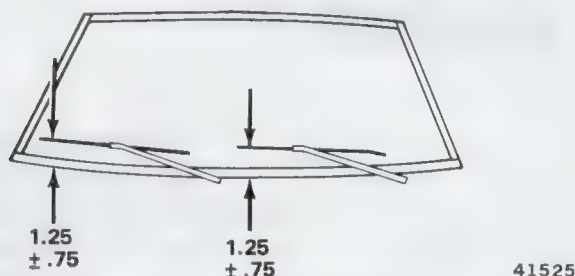

Fig. 3T-21 Wiper Arm Park Location Measurements (Inches)
(2) Operate wiper motor a few cycles, then turn off to position pivot shafts in park position before installing arms and blades.
(3) Install arms and blades on pivot shafts with tips of blades to right side of car. Tips of blades should be positioned according to dimensions shown in figure 3T-21.